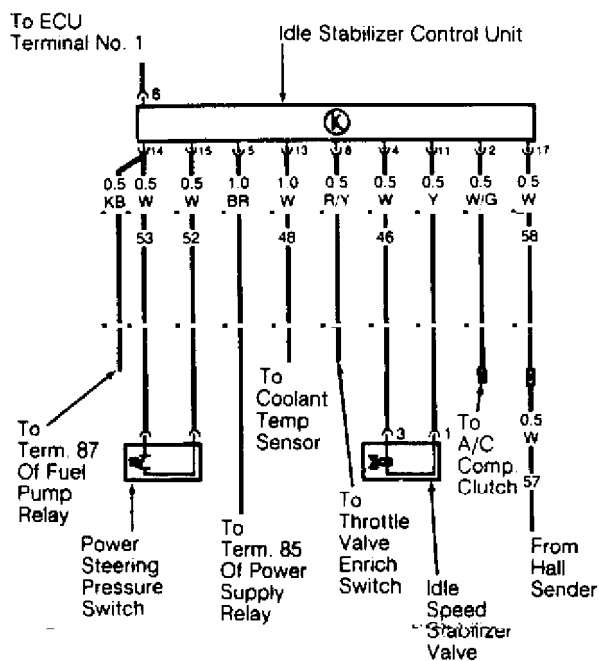

Fig. 9: Idle Stabilization System Control Unit (Vanagon)
2) If milliampere reading does not increase, turn ignition switch Off. Connect test light between terminals No. 2 and No. 5 of idle stabilization control unit connector. See Fig. 9. Start engine and cycle A/C switch On and Off.